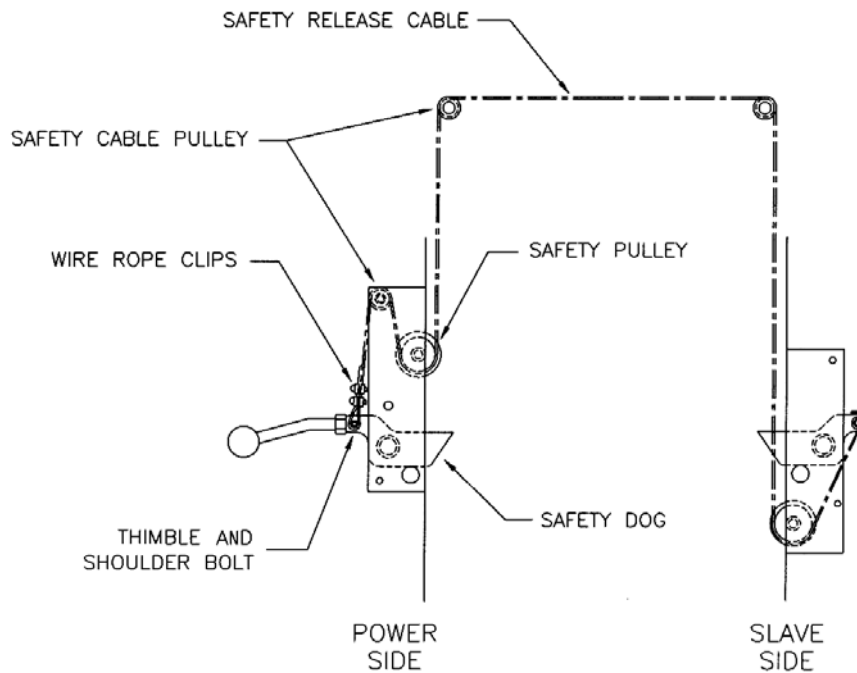

Figure 10 – Safety Release Cable Routing and Adjustment
- Refer to **Figure 10** for safety release cable routing. The end with the collar is to be installed onto the slave side tower, while the loose end will be installed onto the power side tower with two (2) wire rope clamps.